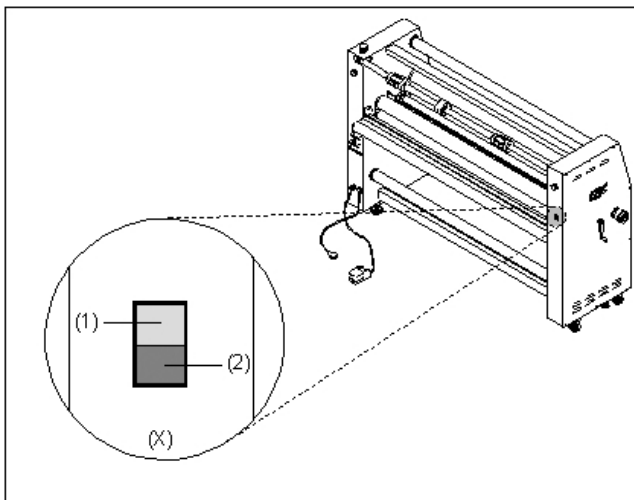

Fig 18
Y. REAR RUN/ STOP SWITCH: (Figure 18) Located on the right side of the laminator from the rear operating position. This switch permits run (1) / stop (2) control of the motor from the rear operating position.